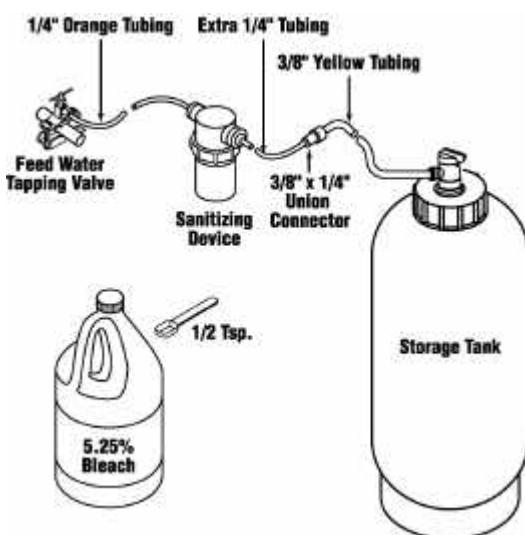

Fig. 8
- Close the feedwater tapping valve. Unplug the transformer. Lift up on the faucet handle to drain the tank. Wait five (5) minutes for the purification assembly to completely depressurize.
- Make sure that there is some slack in the red SFC tubing connected to the fitting at the bottom of the RO membrane cartridge. Twist the cartridge 1/4 turn clockwise so that the tubing connection is accessible. (See Fig. 8)
- Make sure that the feedwater tapping valve is completely closed and disconnect the 1/4" orange feedwater tubing from the purification assembly. Connect the end of the feedwater tubing to the sanitizing device. Connect an extra length of 1/4" tubing to the other end of the sanitizing device. Using the 3/8" x 1/4" union connector, connect the 3/8" yellow tubing from the tank valve fitting to the extra piece of 1/4" tubing. (See Fig. 8)
- 5) Open the feedwater tapping valve to force water and sanitizer into the storage tank. Allow about three (3) minutes to fill a standard 2.5 gallon tank. It should feel heavy when it is full.
- 8) Shut off the faucet and allow the storage tank to fill for at least six (6) hours. Drain the storage tank again and discard the water. The appliance should be ready to use as soon as the tank refills. If any objectionable taste is noticed, then drain the storage tank again and allow it to refill.